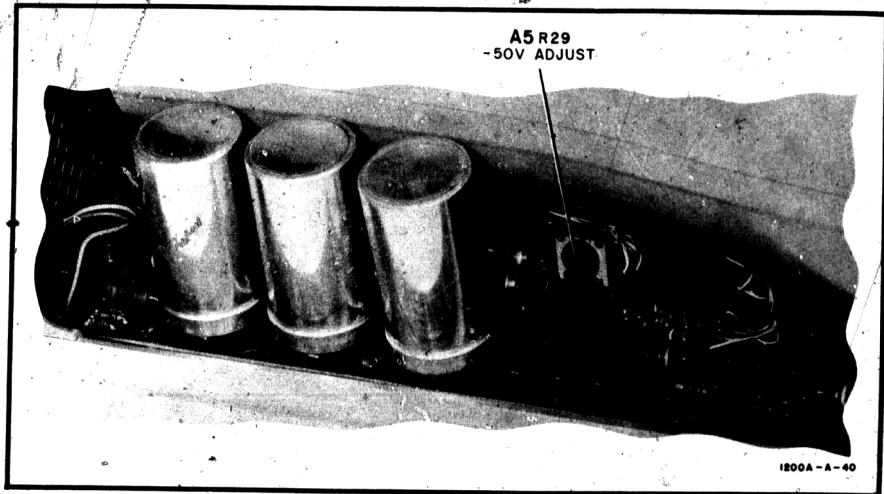

Figure 5-1. Low Voltage Power Supply Adjustment
5-36. Physical location of all internal adjustments is shown in Figures 5-1 through 5-5. Only channel A vertical attenuator and preamplifier adjustments are shown in Figure 5-4. To find the corresponding channel B adjustments, change the A1 prefix to A2.
- b. Adjust A5R29 (Figure 5-1) for output of -50V ± 25 mV.